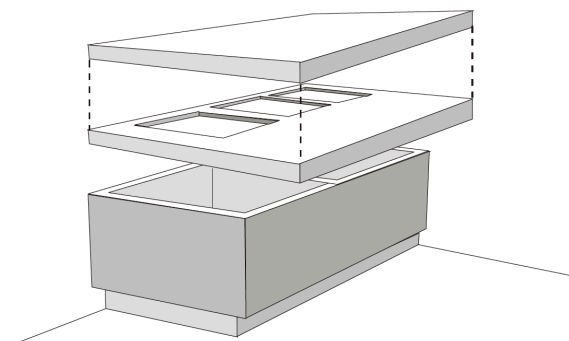

Figure 38A
- Additional support is required when the countertop overhangs the cabinet. (FIG. 38A) Refer to the following chart to determine support required: